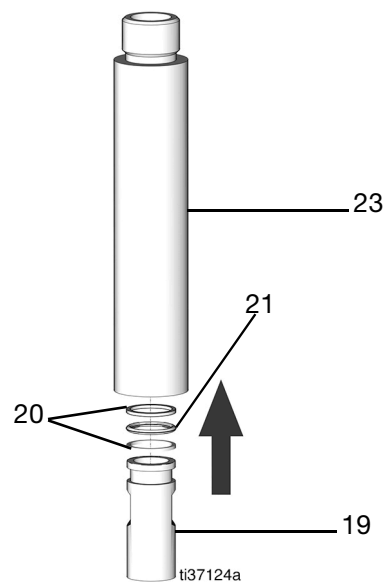

FIG. 59
13. Replace the two back-up rings (20) and o-ring (21) with new back-up rings and o-ring and grease lightly (FIG. 59).
14. Place the piston bushing (19) into the pump lower tube (23) until seated (FIG. 59).